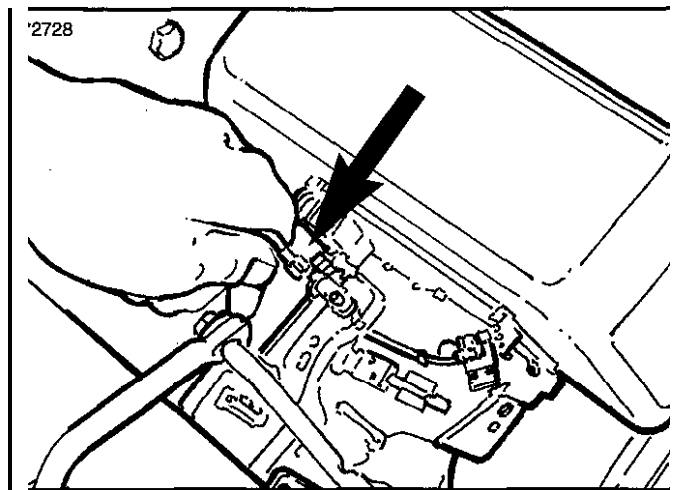
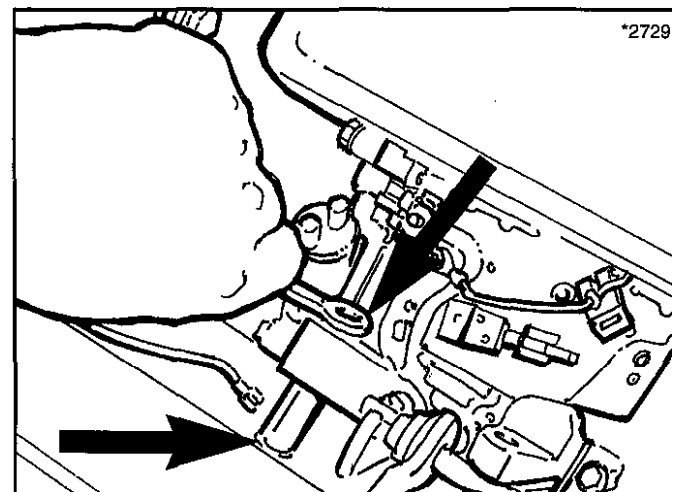

Figure 23. Pull Off Safety Interlock Wire At Spade Terminal
Figure 24. Remove Hex Nut And Screw Securing Safety Interlock Wire #2 To Engine Block Base
8. Remove the safety interlock leads from the spade terminal (Figure 23), and engine block base (Figure 24). A 1/2" socket and 1/2" box wrench are required to remove the hex nut and hex head screw.